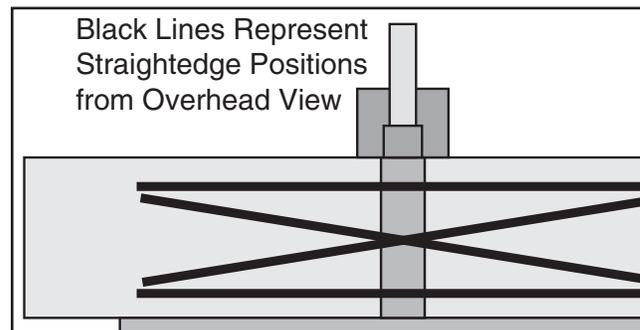

Figure 71. Straightedge positions for checking infeed/outfeed table parallelism.
4. Place straightedge in the positions shown in **Figure 71**. In each position, straightedge should sit flat against both outfeed table and infeed table.